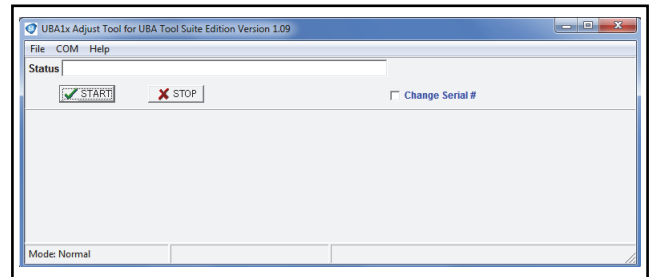

Figure 2: UBA Adjust Tool Application (Sensor Adjustment)
6. Click **Start** to begin the Sensor Adjustment procedure (Figure 2).